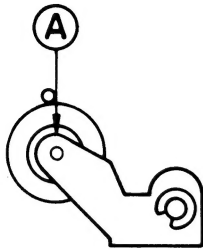

Figure 4-1
- 2) Push the pinch roller, at the point (A) shown in Figure 4-1, by using a tension gauge (500 gr.) so that it will come off the capstan. Then, slowly release the tension until the pinch roller hits the capstan again (i.e., the pinch roller is about to rotate again). Check, then, the tension gauge is reading 300 gr. to 400 gr.